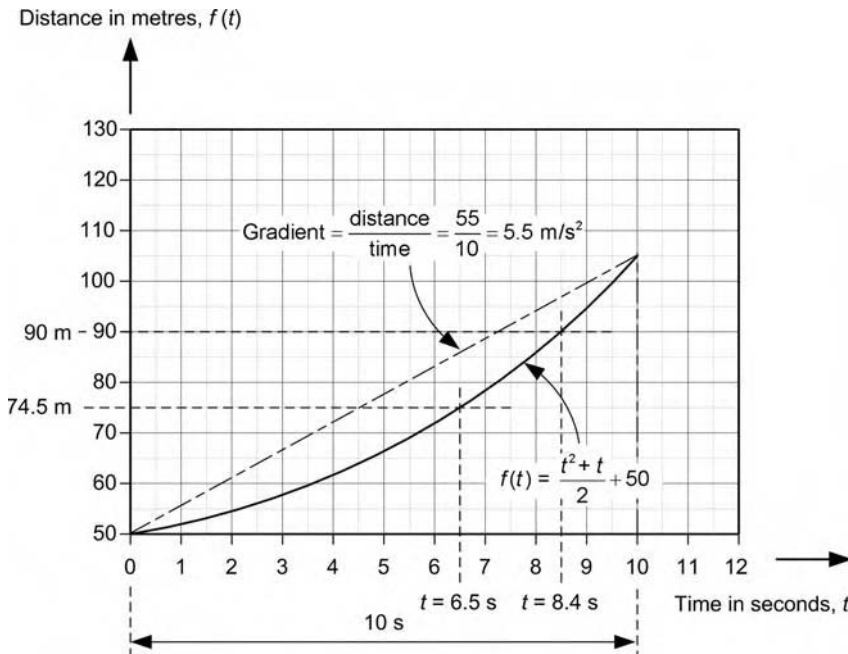

Figure 3.27 Graph of function $f(t) = \frac{t^2+t}{2} + 50$.
2. Note that the graph is parabolic in shape, which is to be expected for a quadratic function (Figure 3.27).